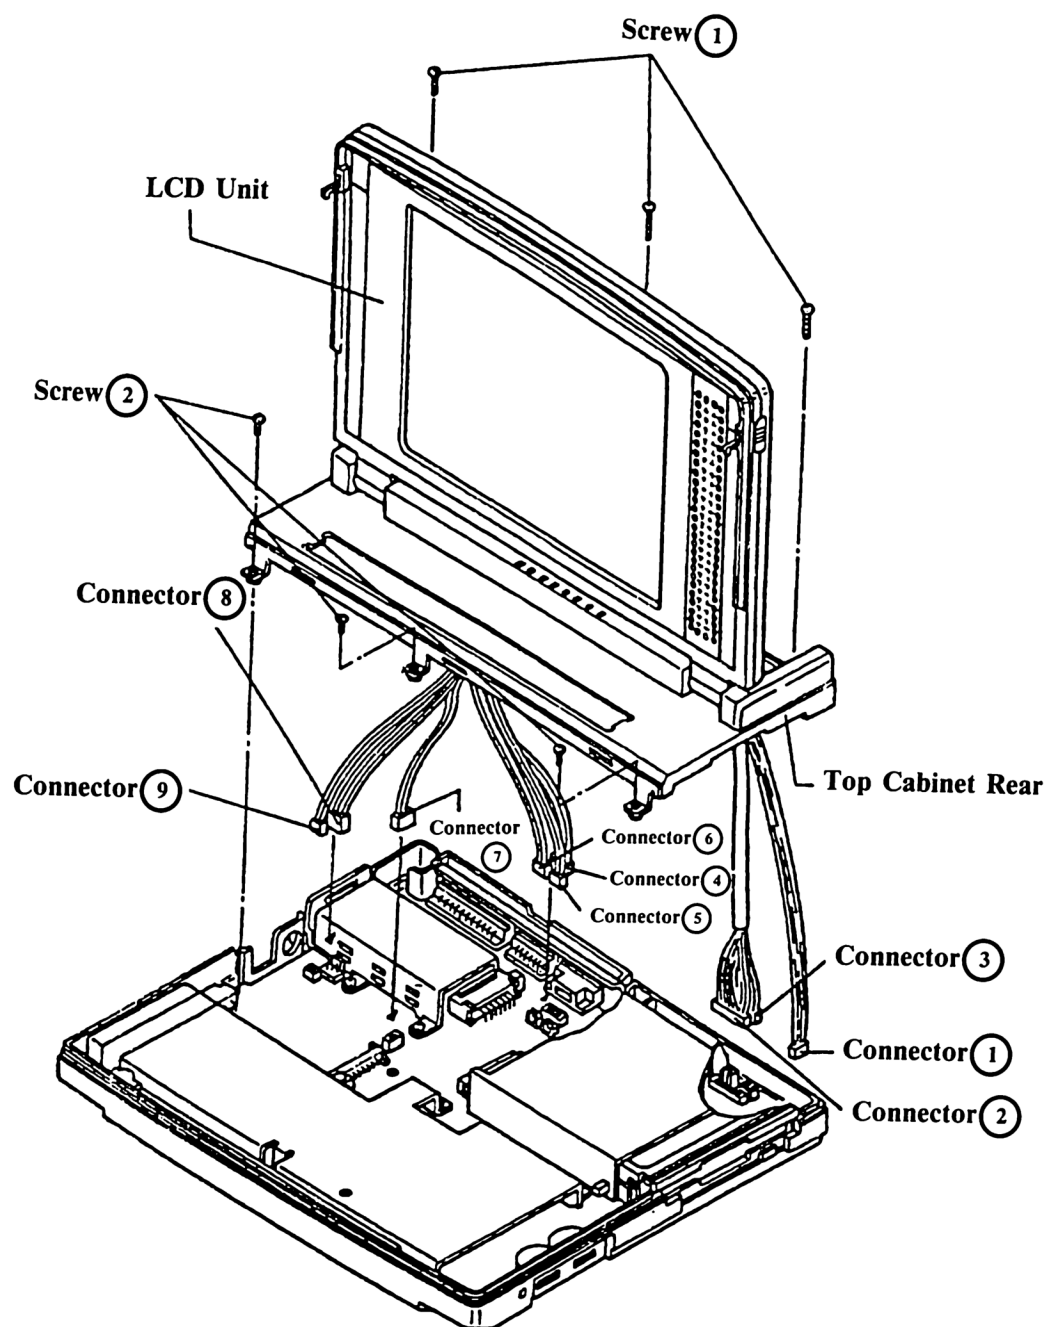

Figure 3.4
Remove the six screws (1) and (2) which hold Top Cabinet Rear in place. (Figure 3.4)